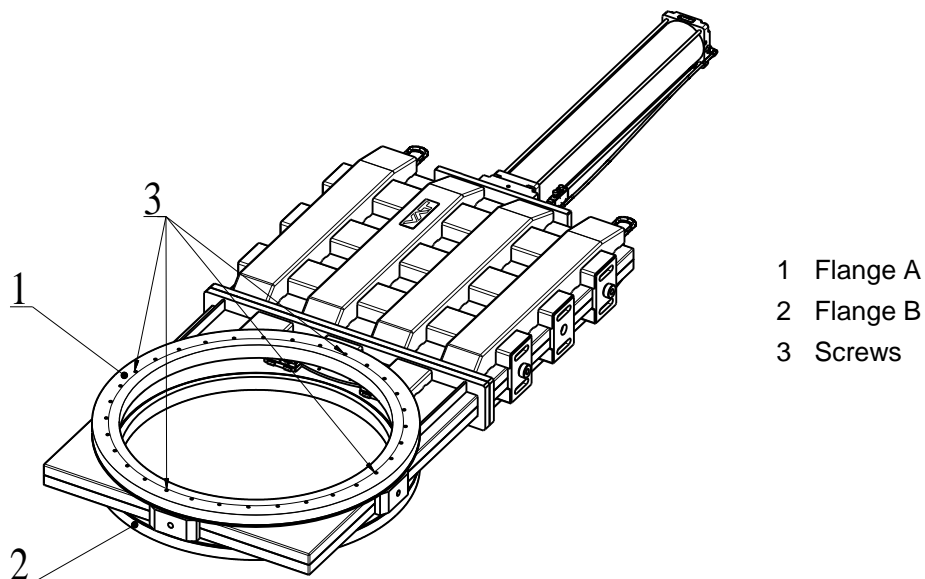

Figure 4-2
see (1) and (2) according to «Figure 4-2» on page 10.
4. Mount the four screws (3) according to «Figure 4-2» on page 10, evenly in crosswise order until the seal touches the sealing surface.